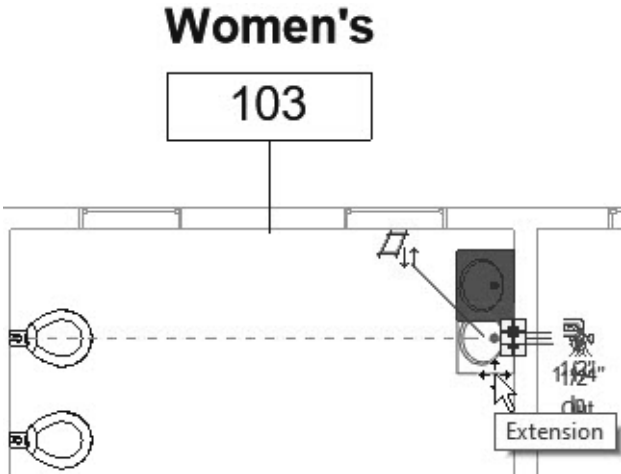

Figure 2-66
- 13. Click  (Modify) and select and drag the lavatory into place so it aligns with the water closet, as shown in Figure 2-66.